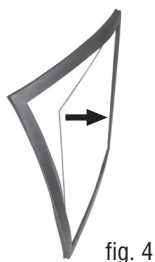

fig. 4
• Replacing Front Lens Plate. (See fig. 4)
• Replacing The Inside Lens Plate. (See fig. 4)